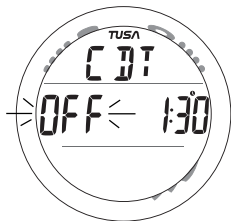

Fig. 17B - CDT STATUS
- Pressing and releasing the A button momentarily (< 2 sec) will save the Minutes Set Point and revert to the CDT Status screen with the graphic OFF (flashing) in place of the graphic SEt (Fig. 17B).